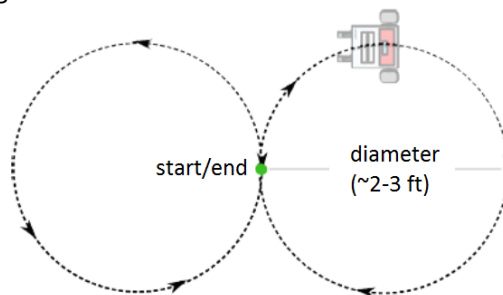

Figure 9: Figure Eight Robot Motion
3. Next, create a “`moveFigure8()`” function to move the robot in a figure eight using two circles (see Figure 9).